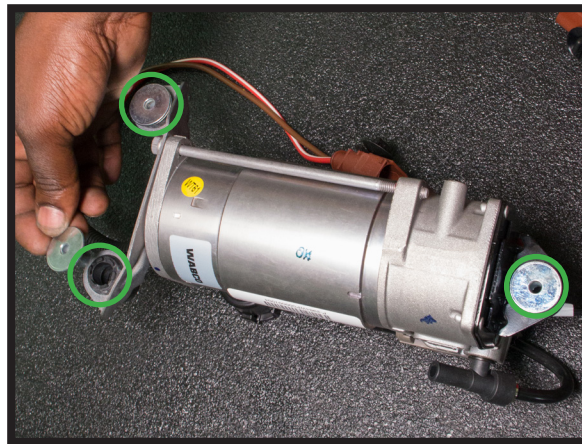

FIGURE 12
1. INSTALL THE THREE WASHERS ONTO THE COMPRESSOR AS SHOW BELOW. (FIGURE 12)